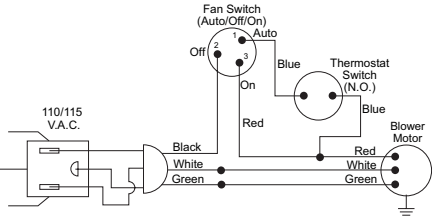
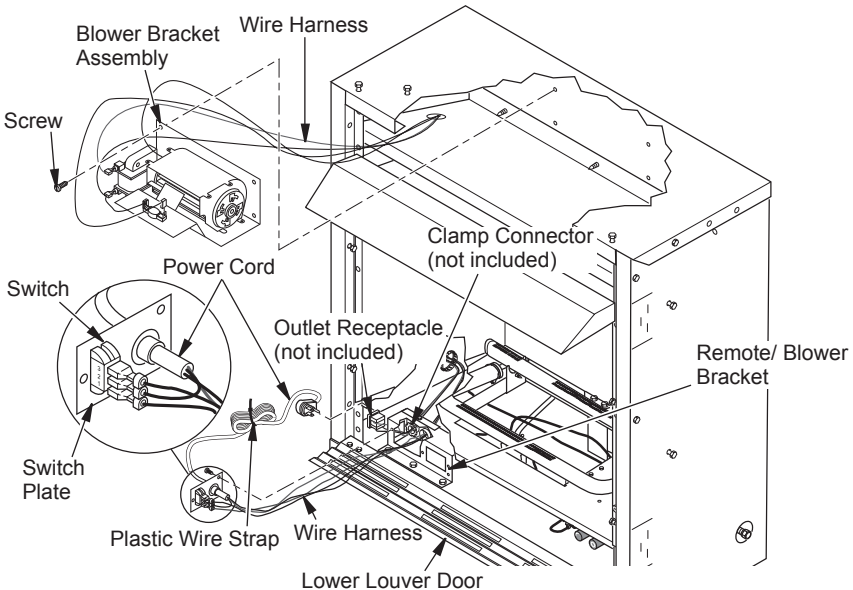

Figure 20 - Wiring Diagram For Blower Accessory Built-In Installation
Figure 19 - Installing Blower Bracket Assembly
1. Install snap bushing from blower kit into one hole on rear of remote/blower bracket (see Figure 19). The other hole is for a strain relief clamp (not supplied) to secure incoming electrical supply.
3. A licensed electrician must follow the wiring diagram to connect incoming electrical supply to fan kit wiring harness (see Figure 20).
4. Plug power cord to outlet receptacle (not provided) as shown in Figure 20. Wind extra cable of power cord and tie up with plastic wire strap (see Figure 19). Set cable bundle between the remote/blower bracket and outer casing, away from the burner.